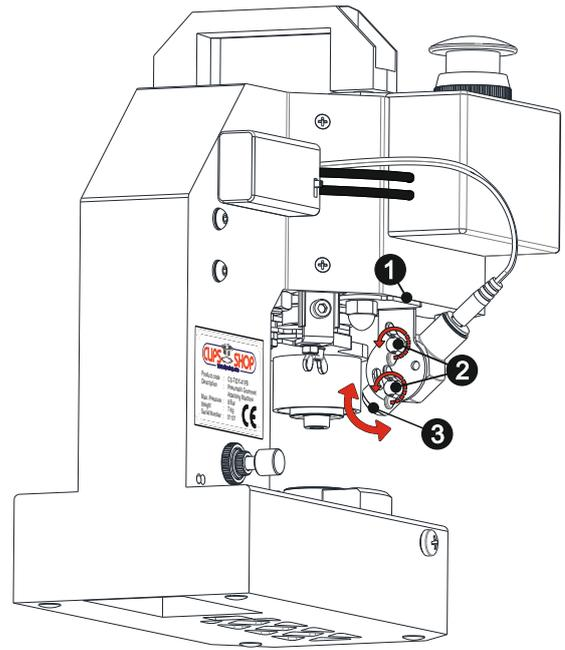

fig. 40
Make sure the bracket's edge ① is in parallel to the machine body. (in certain cases you may rotate the position of EyeleD pointer from this bracket as well.) Loosen the wing bolts ② by rotating them in the arrow direction. You can adjust the position of the light dot by rotating the EyeleD pointer ③ to the right or left in arrow direction as shown in (fig. 40).